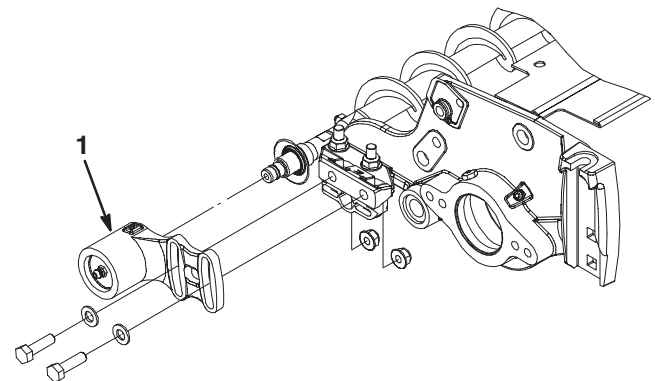

Figure 32
1. If a roller brush is installed on the cutting unit, remove the (2) bolts, washers and nuts securing the non-drive bearing housing to the bearing housing mounting bracket (Fig. 32).